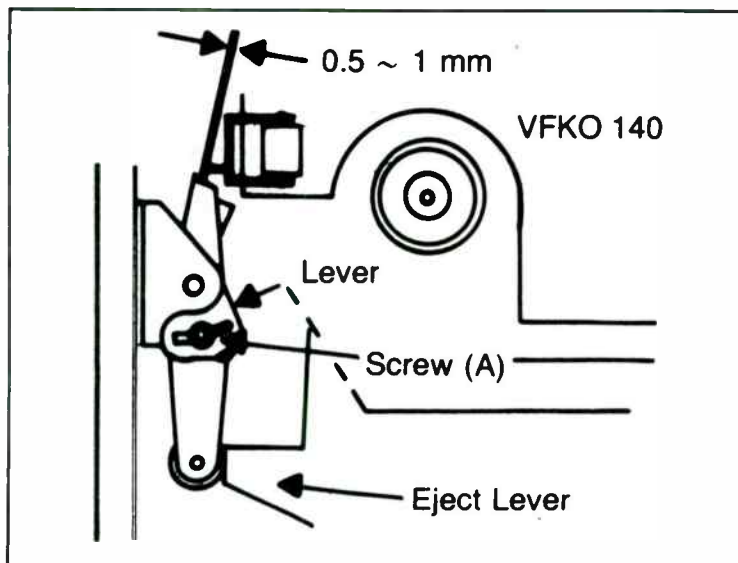

Fig. 10-13. Eject link clearance adjustment (courtesy of Magnavox).
Note: before adjustment, make sure that the eject lever is reset perfectly. Place the fixture, loosen screw (A), and adjust the clearance at indicated point for 0.5 mm to 1 mm. Now tighten screw (A). See Fig. 10-13.